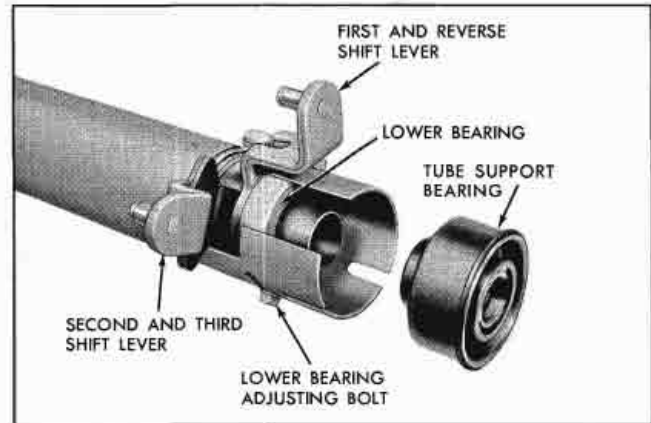

Fig. 7-23 Lower Steering Column Assembly
20. Using screwdriver or other suitable tool, remove tube support bearing from lower end of steering column housing (Fig. 7-23).
21. Remove three lower bearing adjusting bolts and remove lower bearing and first and reverse shift lever assembly from shifter tube (Fig. 7-23).
10. Install new tube support bearing in lower end of steering column and seat firmly, using soft hammer (Fig. 7-23).